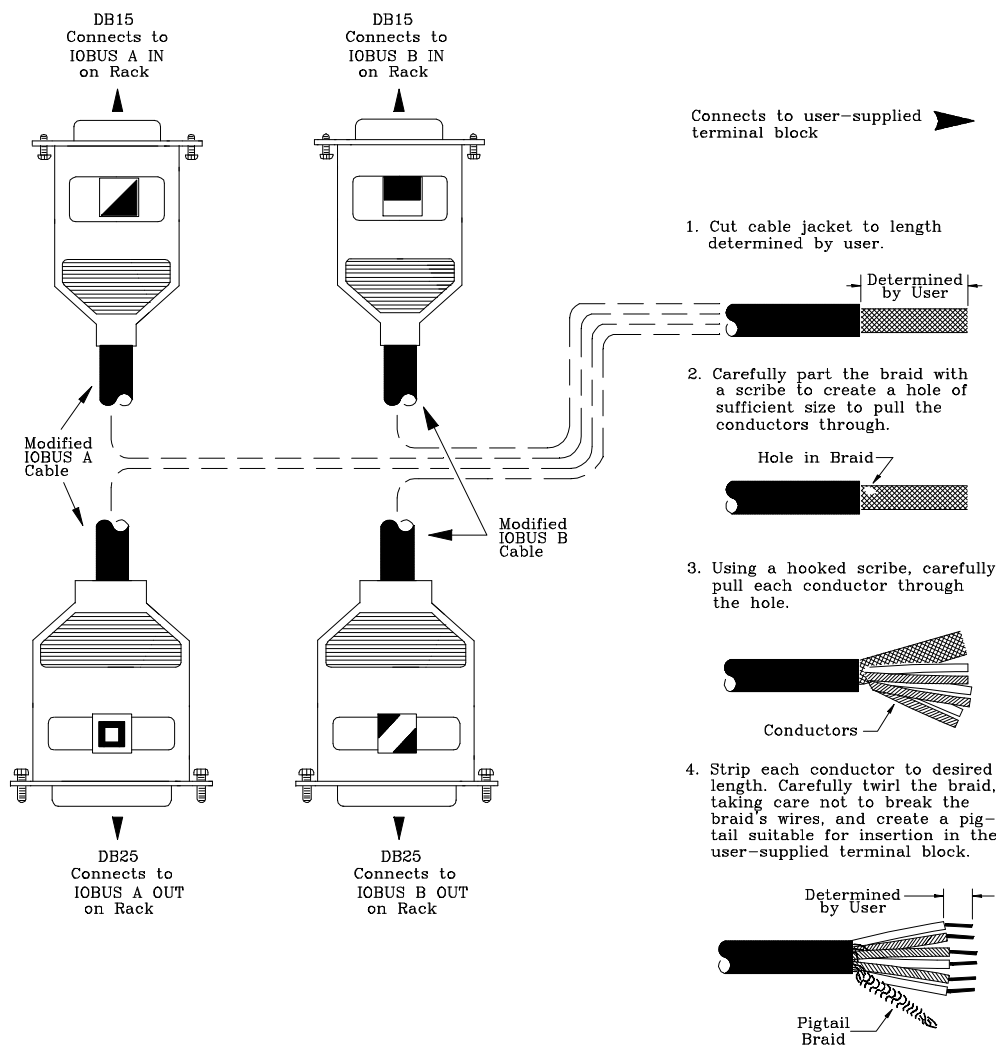

Figure 2-20 Modifying an IOBUS Cable
2. Prepare the cable ends as shown in Figure 2-20.